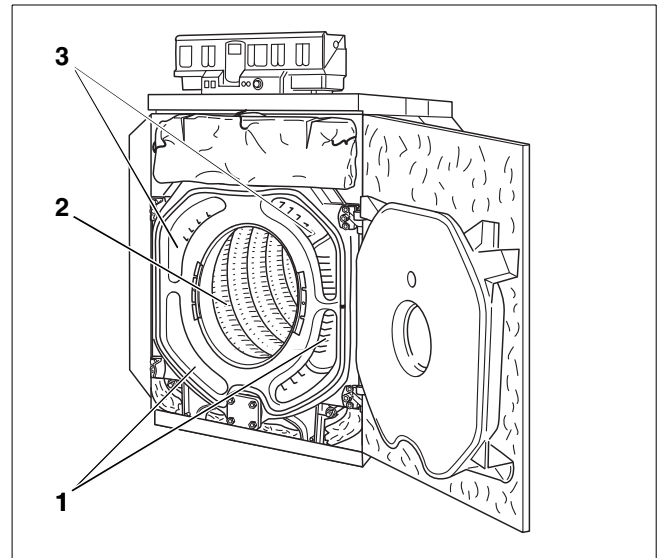

Fig. 69 Cleaning the hot-gas passes
- Clean the hot-gas passes with brushes 1 and 2, working from front to rear (Fig. 69, **ref. 1 and 3**).
- The rest of the combustion chamber (Fig. 69, **ref. 2**) should be cleaned with brush 2.
- Clean the bottom hot-gas passes from the front with brush 2 (Fig. 69, **ref. 1**).